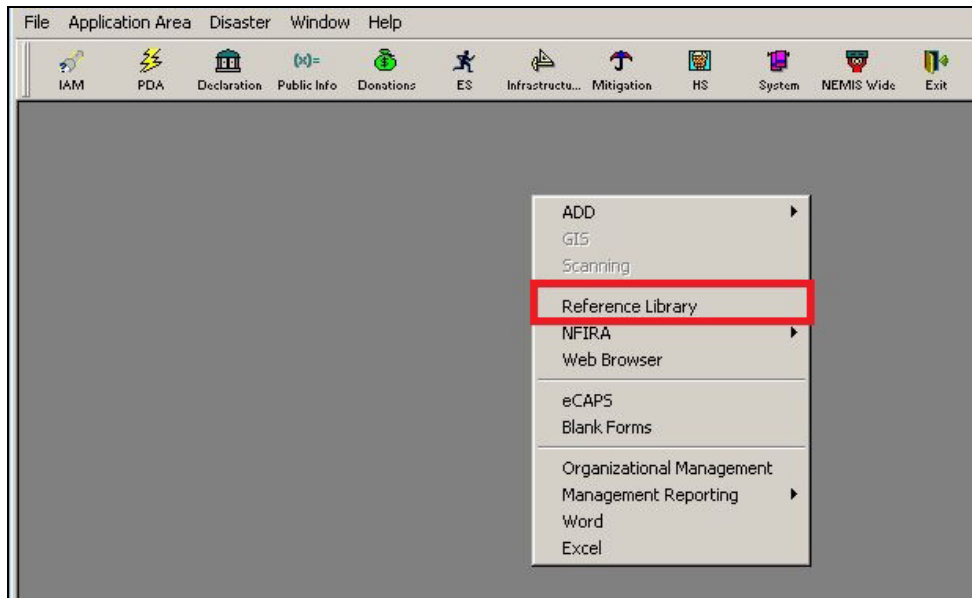

Figure 2-7: NEMIS-Wide Pop-Up Menu
2. The NEMIS Wide pop-up menu is displayed (Figure 2-7). Click Reference Library.